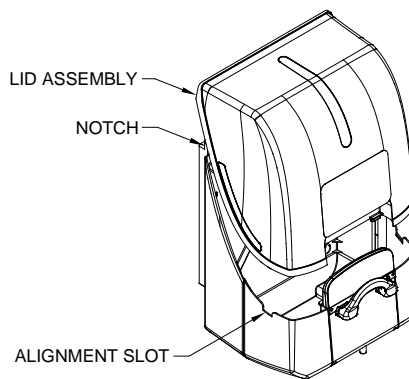

Figure 6
Step 5. Lid Assembly (Ref Figure 6)